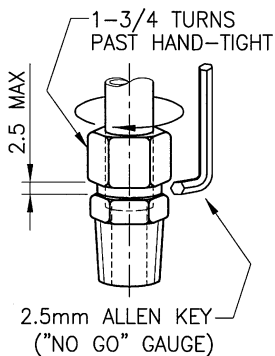

Figure 5
4. Fit conduit to compression tube fitting and tighten nut on fitting as shown in Figures 5 & 7 (2.5 mm hex key used as a no-go gauge which is approximately 1 3/4 turns after hand tight.) This connection **must** be gas-tight.
1. Tighten nut on 1" NPT bored through compression fitting as shown in Figure 5
5. Remove tape from conduit, refit compression tube fitting to conduit. Tighten nut on fitting as shown in Figure 5